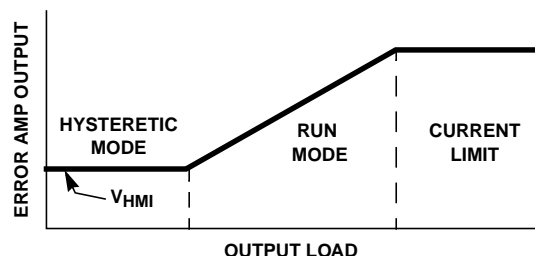

FIGURE 6. OPERATING MODES WITH THE ERROR AMPLIFIER CLAMPS
Limiting the error amplifier output voltage range provides both current-limit protection and a mechanism for setting the load current boundary between the Run and Hysteretic modes. Figure 6 shows the modes of operation as a function of the error amplifier output and load current. The error amplifier output voltage tracks the inductor current. The upper error amplifier clamp limits the peak inductor current which reduces the pulse-width (or duty factor). This reduces the output voltage with a constant current characteristic. The lower error amplifier limit sets the minimum inductor current. For load current demand below the minimum inductor current, the excess current adds charge to the output capacitor and the output voltage increases. The voltage on the feedback (FB) pin also